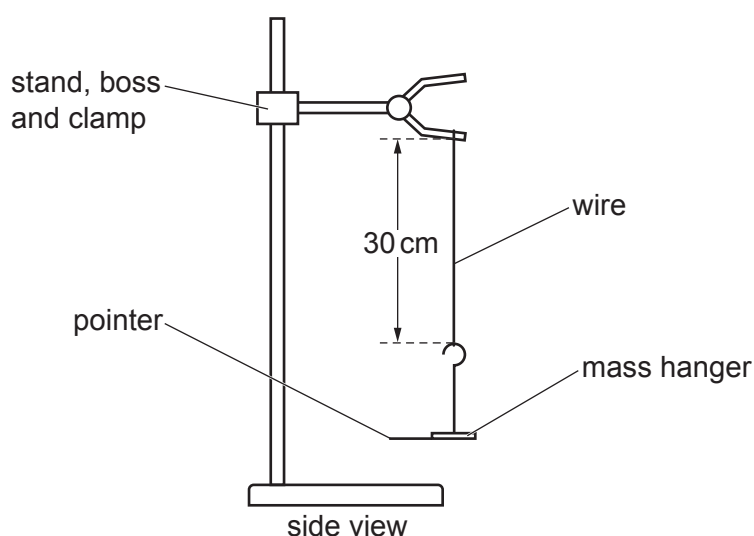

Fig. 4.1
3. Supervisors should set up the apparatus shown in Fig. 4.1 with the mass hanging on the wire just above the base of the stand, with the mass at rest.
At the changeover, the supervisor should restore the apparatus to the configuration shown in Fig. 4.1 with all the slotted masses removed from the mass hanger.